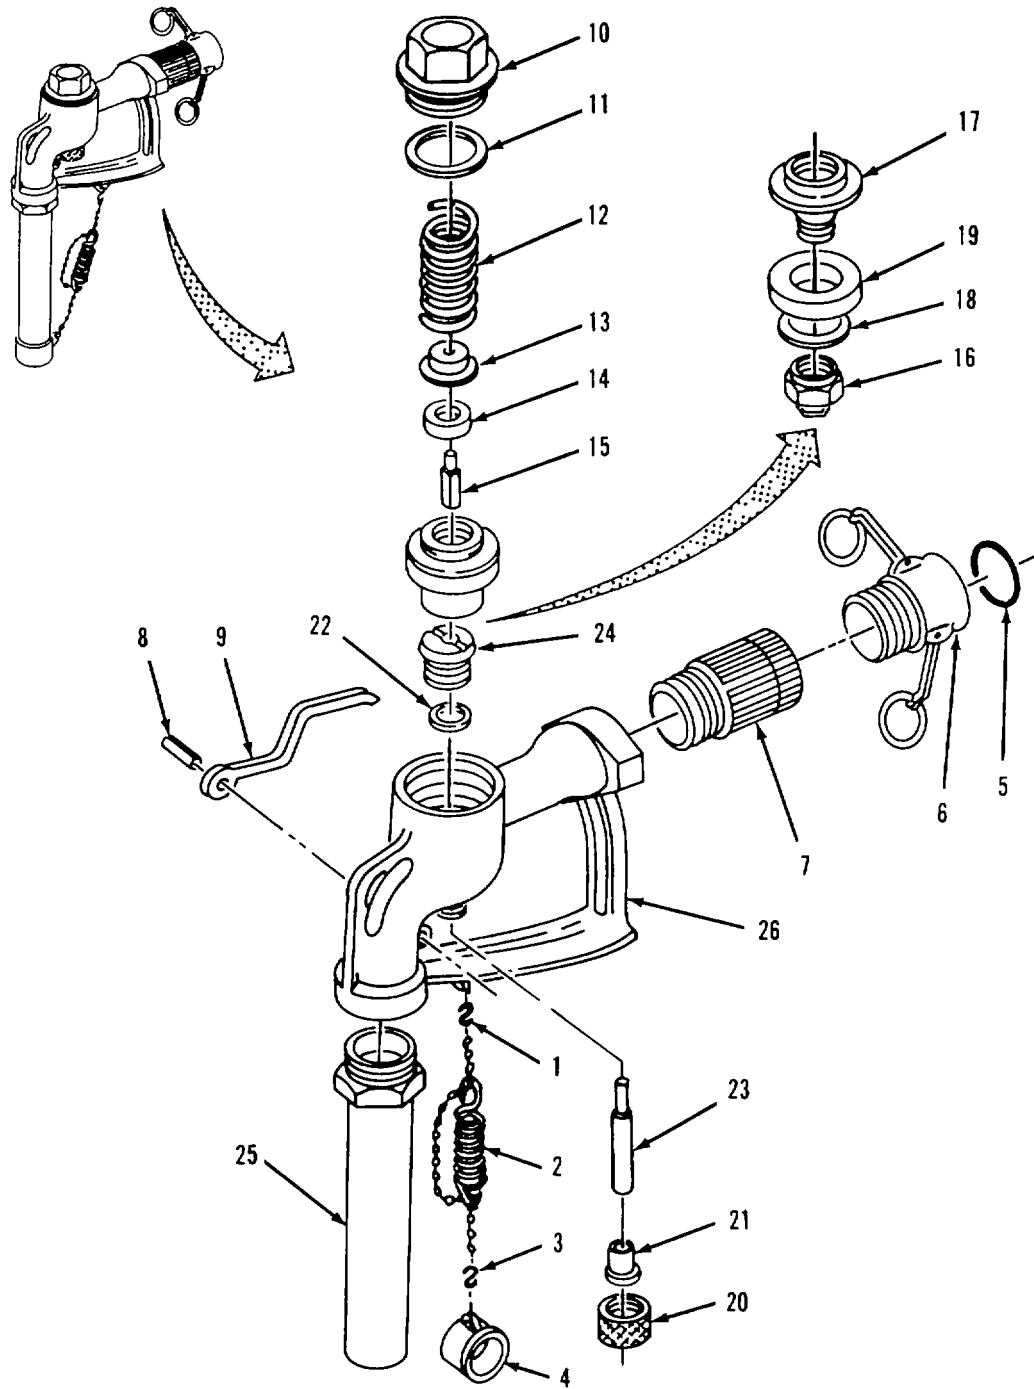

Figure 4-15. Distribution Nozzle (1 1/2-inch) Assembly.
- (1) Inspect body (26) for cracks and stripped or damaged threads.
- (2) Inspect handle (9) for cracks.
- (3) Inspect tube and adapter (25) for bends, cracks, and deformation.
- (4) Inspect stem (23) for scoring Check that stem is straight.
- e. Assembly. Refer to figure 4-15.
- (1) Screw tube and adapter (25) into body (26).
- (2) Install packing (22) in stuffing box (24), then screw stuffing box down into body (26).